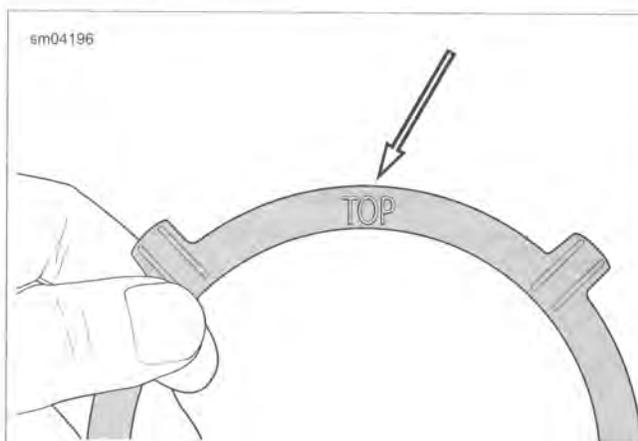

Figure 4-16. Cam Ring Stamp
8. See Figure 4-16. Install cam ring over fuel tank top plate with the TOP stamp up.